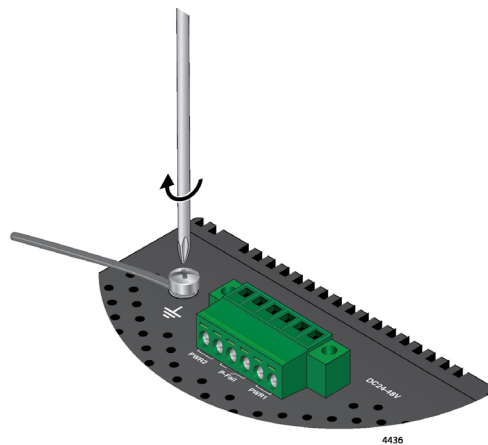

Figure 35. Secure Grounding Wire to the Switch
4. Tighten the screw clockwise to secure the ground wire to the switch chassis. Refer to Figure 35.